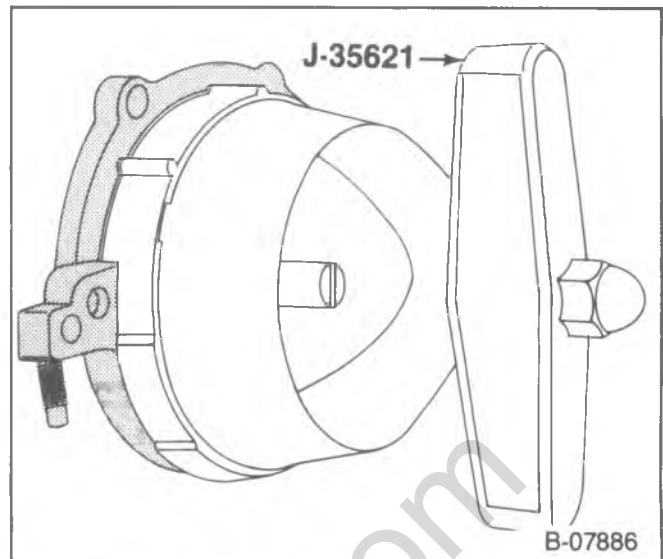

Figure 22—Installing the Rear Crankshaft Oil Seal
→→ Install or Connect (Figure 22)
1. Rear crankshaft oil seal (figure 22).